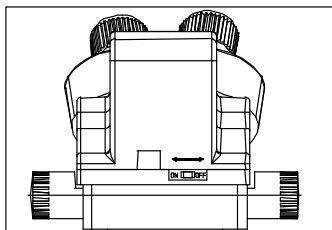

Fig.12
- 3) If you want to observe another single color, please let the switch be "ON" again when you finish the observation, and put the switch on "OFF" again after auto balance, or the color of the image will be distortion.(Fig.12)